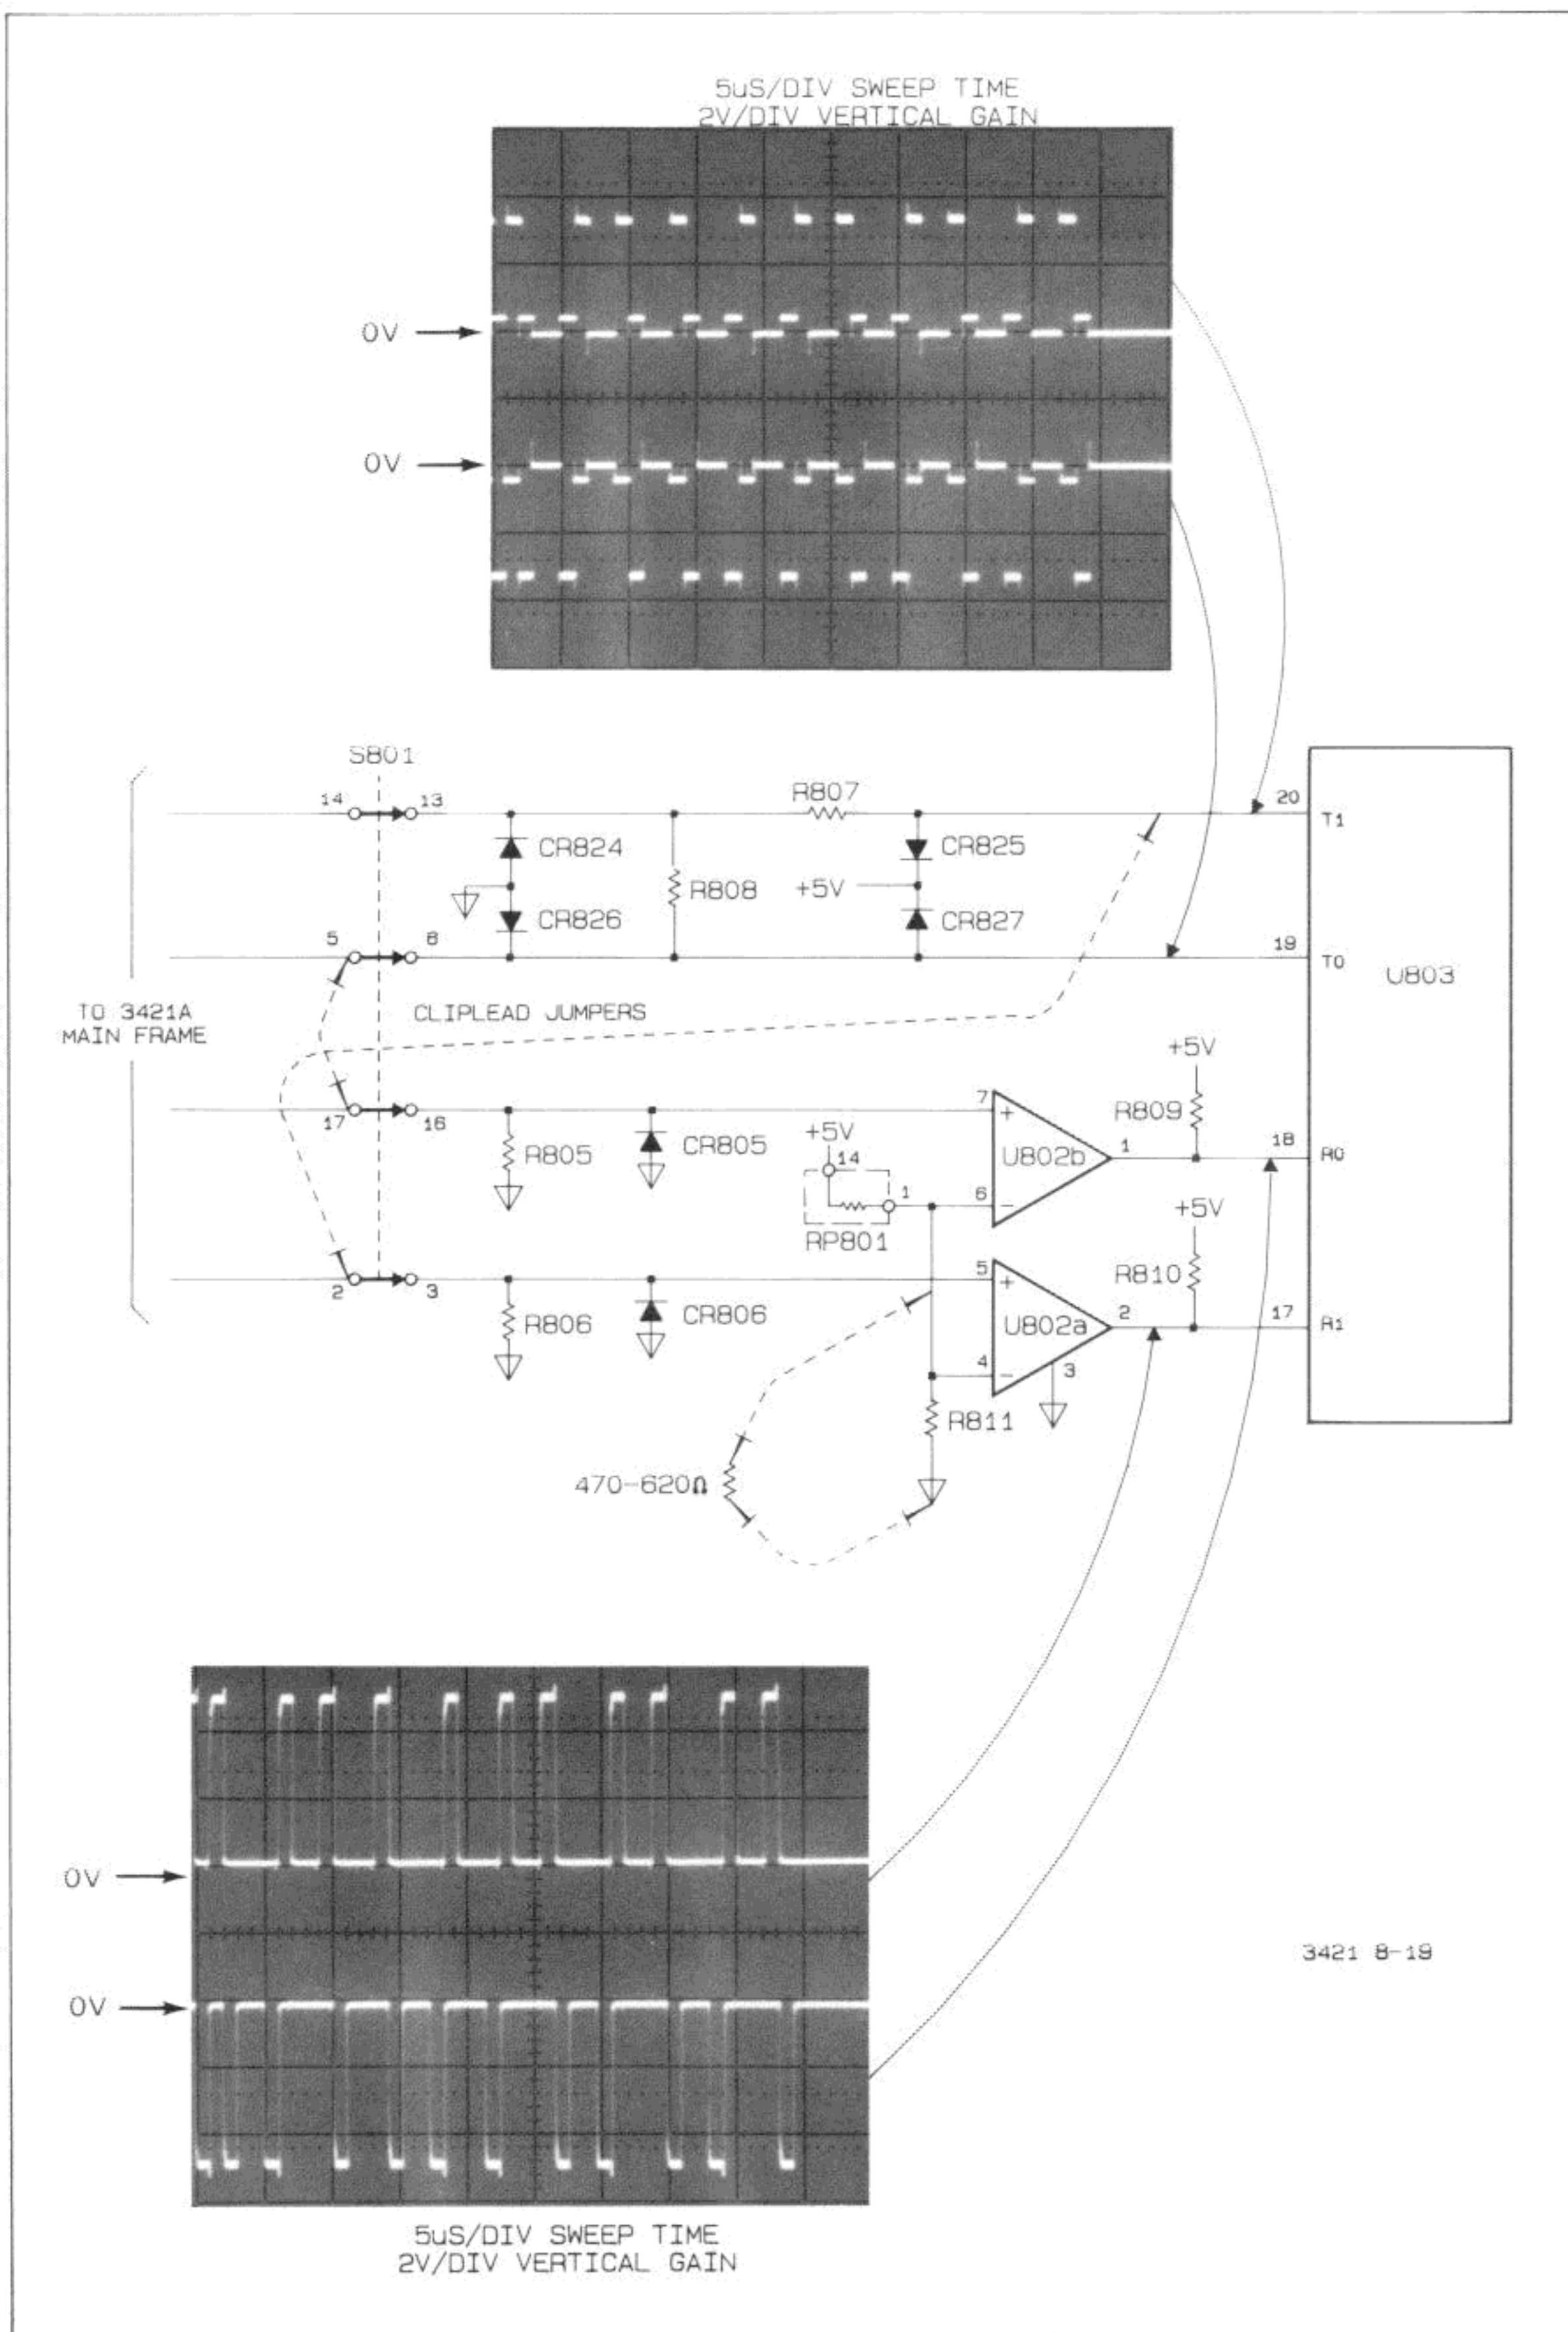

Figure 4-8-19. HP-IL Waveforms (SA Test #2)
m. Set a dual trace oscilloscope to 5 μ S/div sweep time and 2V/div vertical gain. Invert channel B of the oscilloscope. With the oscilloscope probes referenced to ground on the HP-IB assembly, check U803 pin 19 and 20, and then U803 pin 18 and 17 for the waveforms shown in Figure 4-8-19. To obtain the waveform shown in the figure, the HP-IB assembly must be running SA Test #2. Also, the jumpers are configured to simulate an HP-IL loop connection. Hence, the waveforms at U803 pins 17 and 18 are generated as a result of the waveforms at U803 pins 19 and 20. If the waveforms are missing or incorrect, do the following: